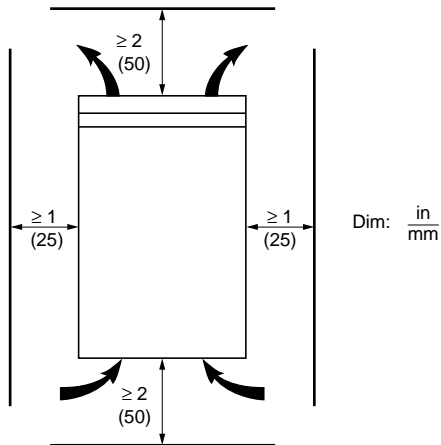

Figure 2: Clearances and Ventilation
- Figure 2 shows the minimum clearances required around the drive controller for unobstructed airflow; above and below: ≥ 2 in (50 mm), sides: ≥ 1 in (25 mm). These clearances should not be used as a minimum enclosure size.
- For 600 V systems, if no line reactor is installed or if power factor correction is used, contact the Drives Product Support Group at (919) 217-6535.
- Observe minimum clearance distances shown in Figure 2 on page 9.